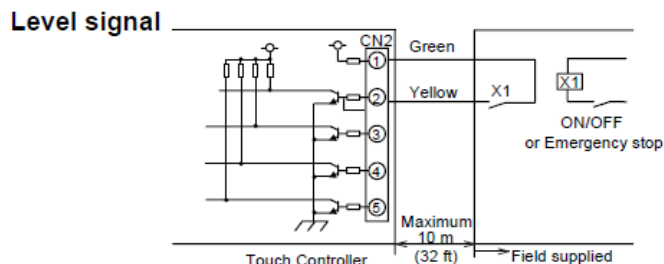

Figure 2. CN2 Wiring Diagram for the Centralized Controller TC-24
- External input/output with CN2 on Centralized Controller TC-24 (see Figure 2)